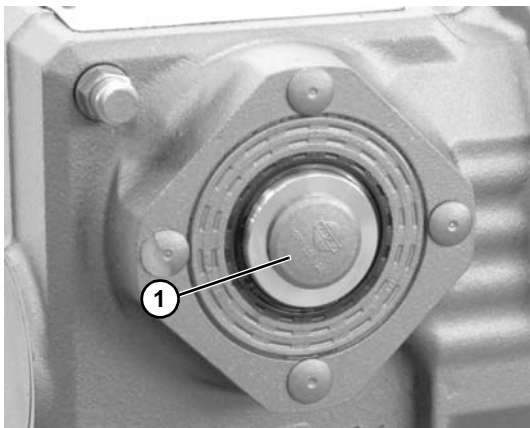

Figure 15
7. Remove snap in cover (**Figure 15, item 1**) on opposite side of gearhead.
10. Snap on cover (**Figure 15, item 1**).